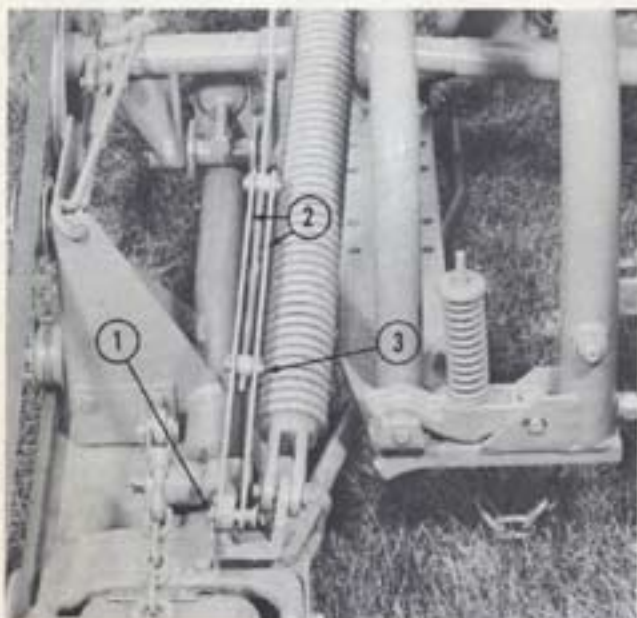

Fig. 27 Lift Link Adjustment
1. Remove the clevis pin (No. 1, Fig. 27) at
taching the lift cable retaining links (No. 2, Fig. 27) to the retaining arm.
2. Screw the links either clockwise or counterclockwise, so that the trunnion (No. 3, Fig. 27) retaining the lift cable is screwed in the direction required to make adjustment.